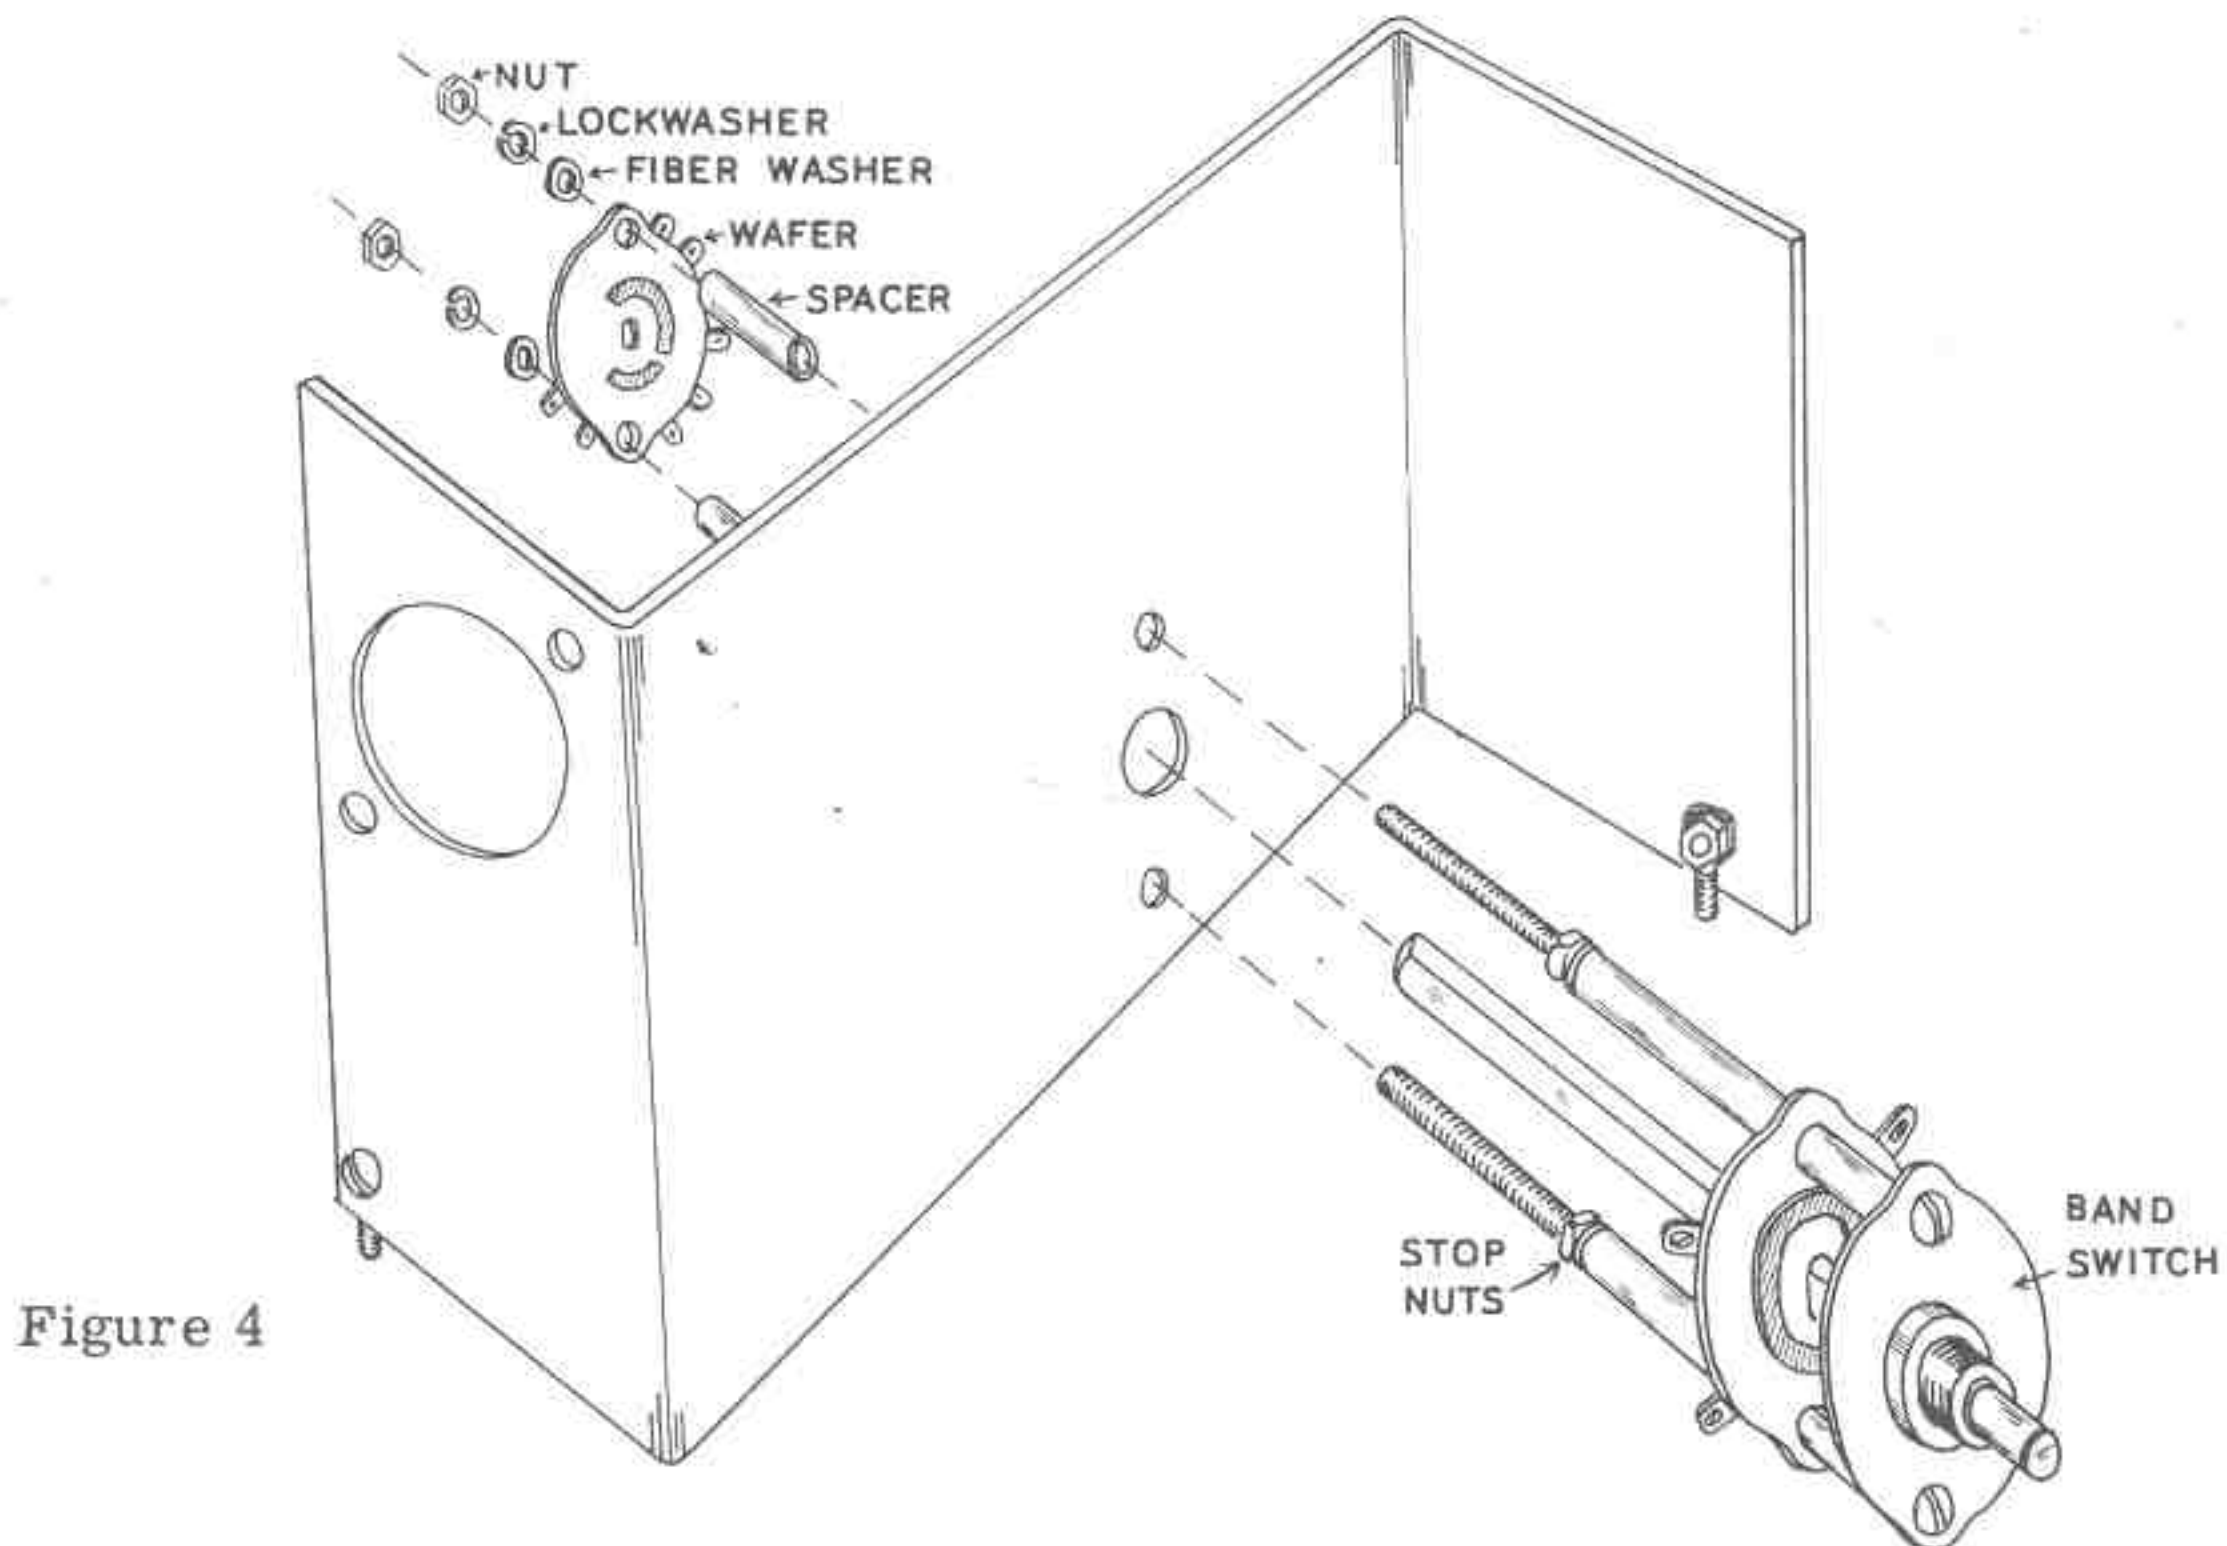

Figure 4
- (✓) Bend the 15 meter insulated tap lead down and connect it to the #2 terminal on the oscillator bandswitch (S).
- (✓) Cut a piece of #20 tinned wire 4" long. Pass it under the center shaft and connect one end to oscillator switch terminal #4 (S).
- () Take special note of the wafer position and identifying (x) mark. Disassemble the rear wafer from the bandswitch back to the stop nuts. (Do not loosen these nuts.) See Figure 4.